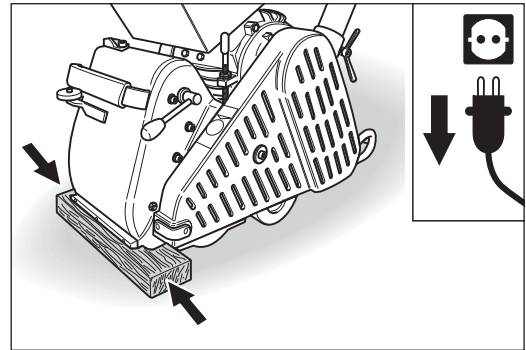

Fig. 44 Transport or storage of the machine on a flat piece of wood.
- **During transport or storage, place a flat piece of wood between the floor surface and machine housing (fig. 44)! This prevents the housing from slipping and stops the sanding drum being in direct contact with the floor!**